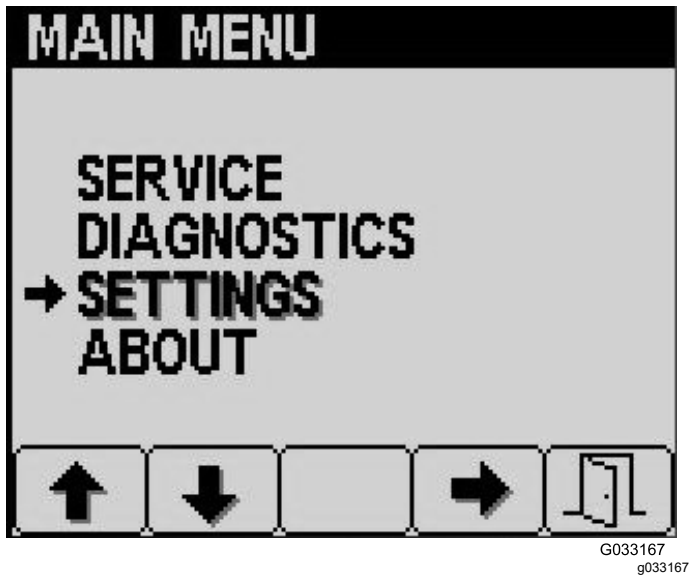

Figure 11
1. From the startup screen, press and hold button 5 until the Main Menu appears (Figure 11).
2. Press button 2 until you reach Settings on the Main Menu screen and press button 4 to select Settings (Figure 11).